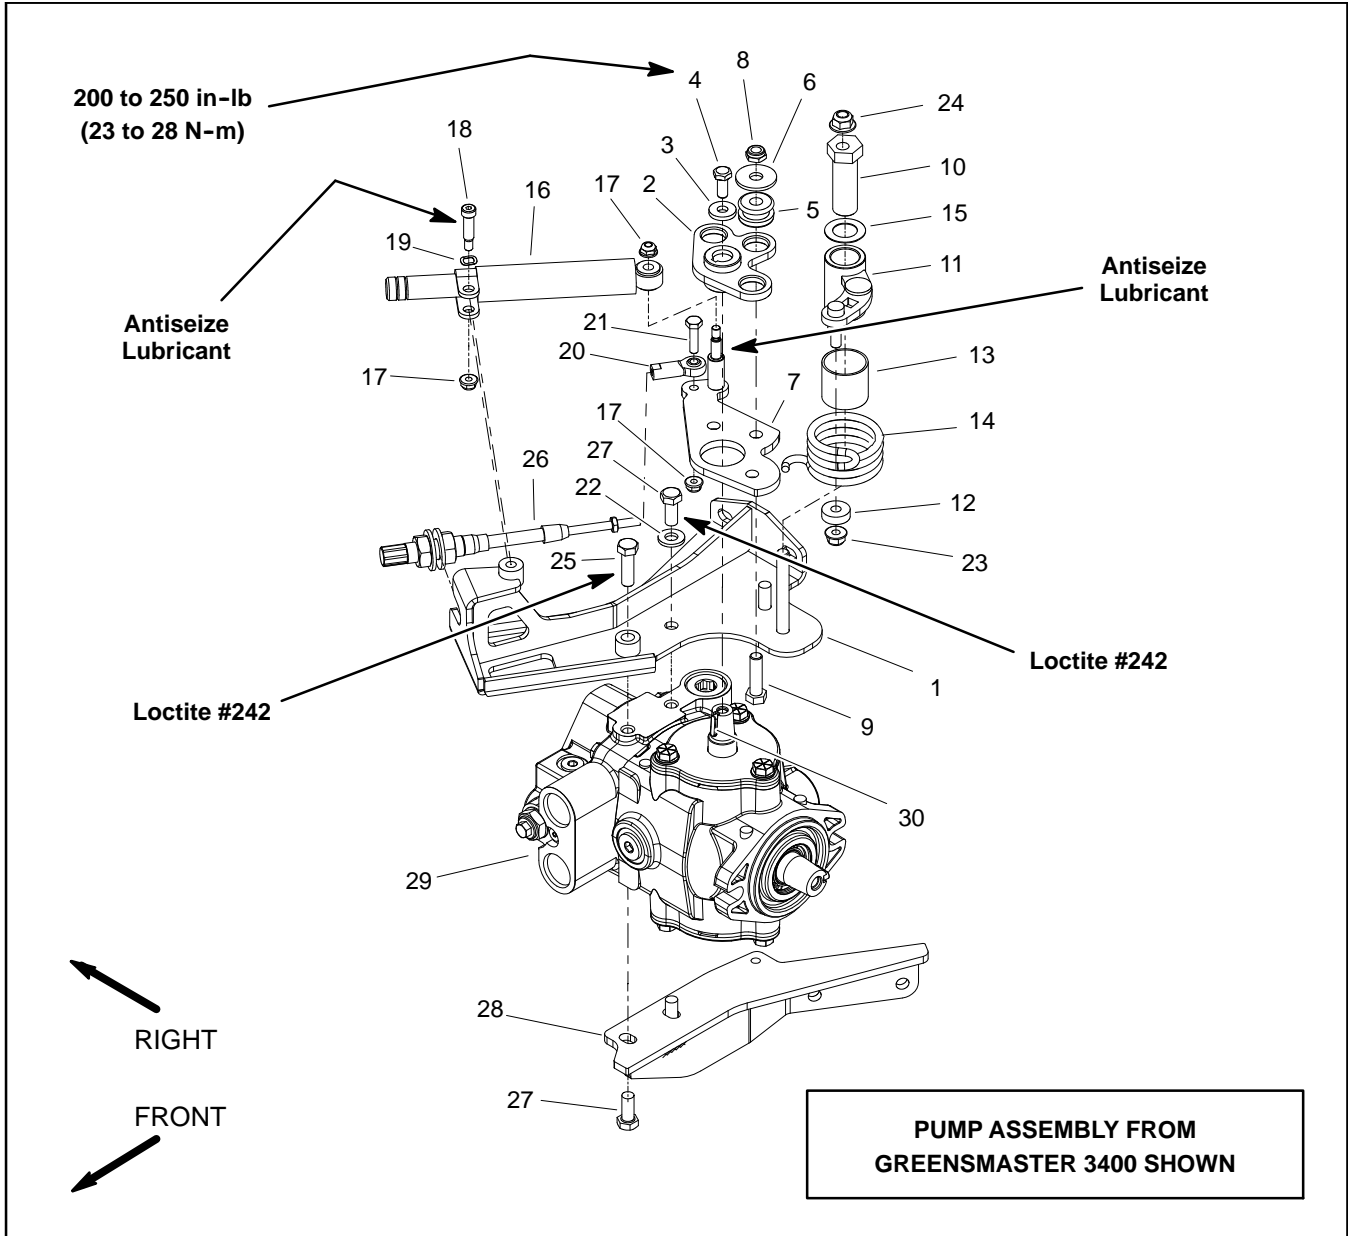

Figure 42
**NOTE:** The piston pump neutral assembly used on all Greensmaster TriFlex machines are very similar. The pump assembly from the Greensmaster 3400 machine is shown in Figure 42.
### Disassembly (Fig. 42)
2. Remove components from traction neutral assembly as needed using Figure 42 as a guide.
### Assembly (Fig. 42)
1. Install removed components to traction neutral assembly using Figure 42 as a guide along with the following: